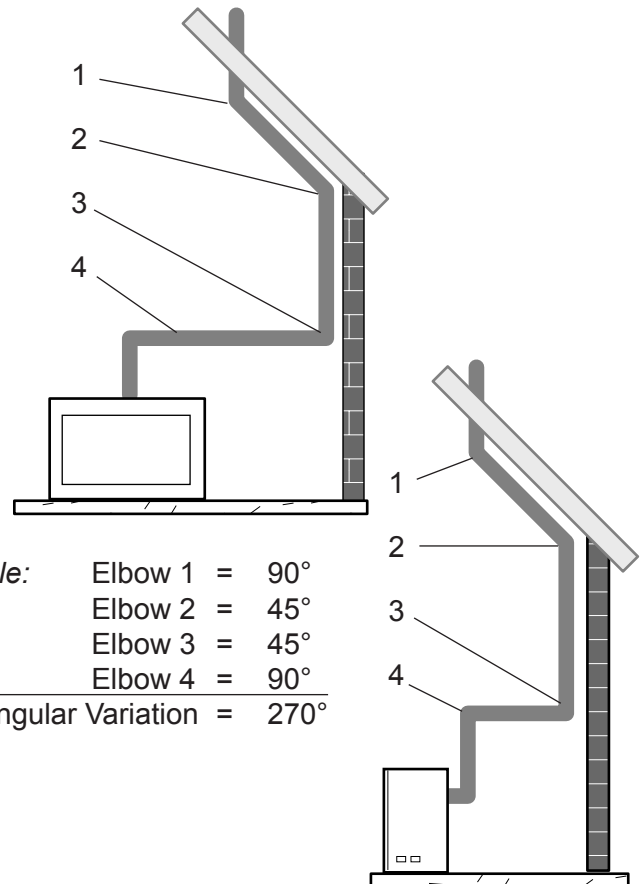

Figure 32 - Maximum elbow Usage
- Two sets of 45°elbows offsets may be used within the vertical sections. From 0 to a maximum of 8' (2.5 m) of vent pipe can be used between elbows. See Figure 32.
- The maximum angular variation allowed in the system is 270°. See Figure 32.
NOTE: If an offset is needed to avoid obstructions, you must support the vent pipe every three (3) feet. Use wall straps for this purpose. See Figure 32, page 24. Whenever possible, use 45° elbows instead of 90° elbows. The 45° elbow offers less restriction to the flow of the flue gases and intake air.